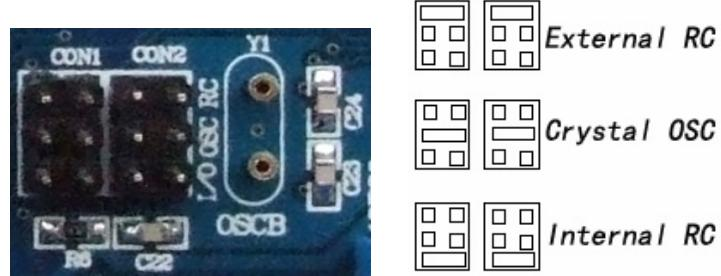

Figure 5-3 DIP20 clock selection
- 3) DIP20 clock selection. As shown in Figure 5-3